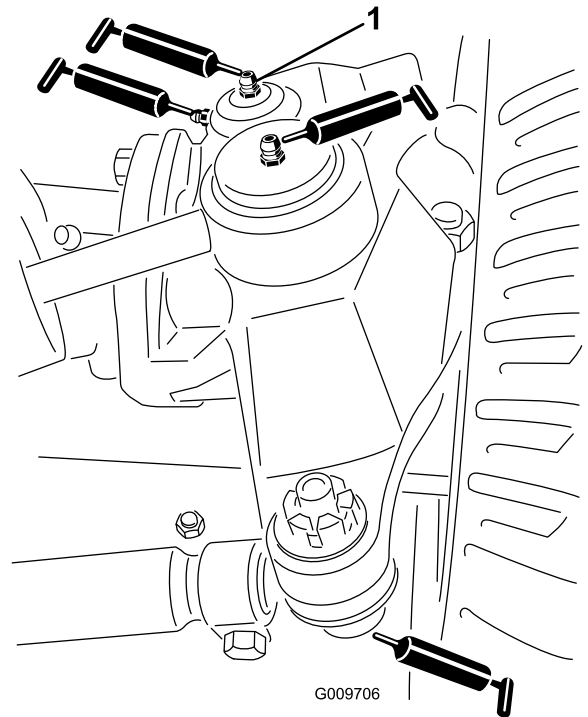

Figure 58
- Steering cylinder ball joints (2), refer to Figure 58
- Tie rod ball joints (2), refer to Figure 58
- King pin bushings (2), refer to Figure 58.